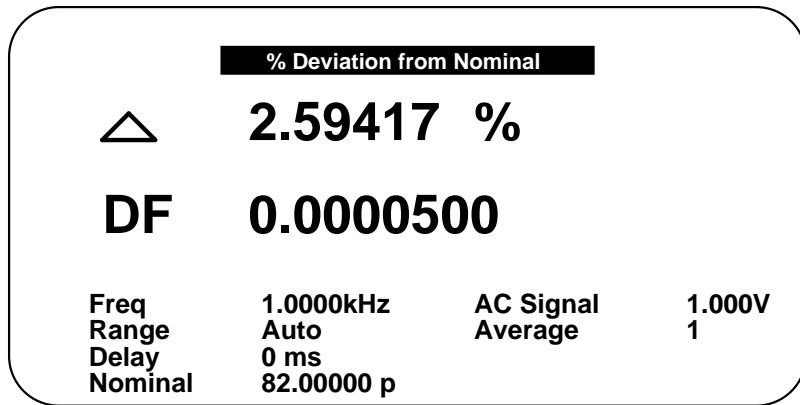

Figure 2-14
- **Deviation from Nominal** - Display is the difference in value above or below a stored nominal value for the primary parameter (also refer to paragraph 2.6.3.2). It should be noted that the nominal value is only shown in this display and the % Deviation display (Figure 2-14).